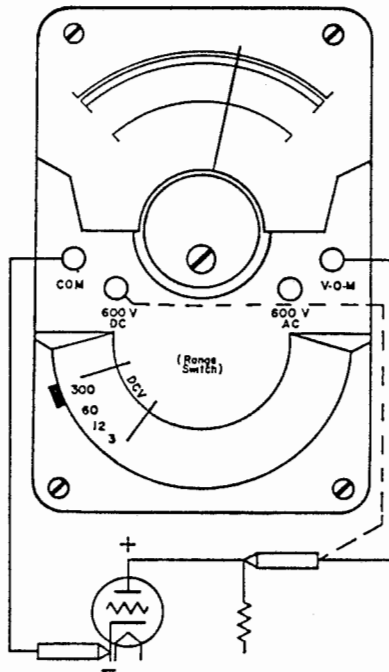

FIGURE 3 — DC Voltage
- B. DC Voltage measurements (Refer to Figure 3).